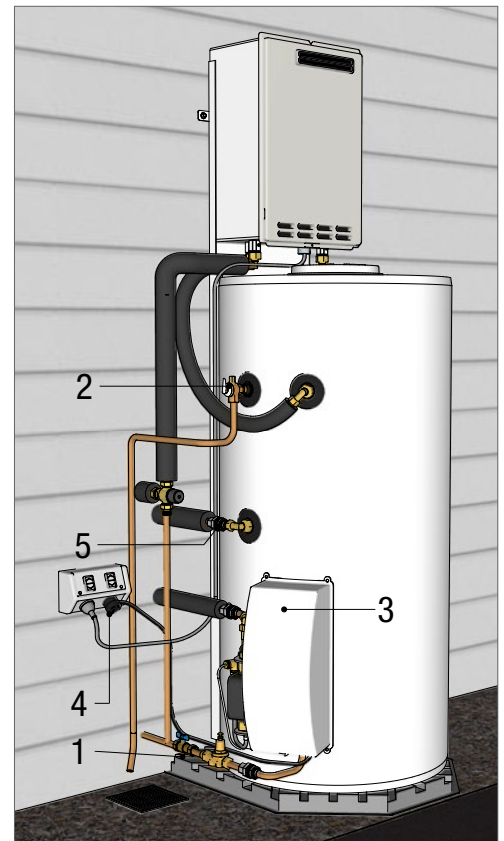

Fig 3
5. Connect the collector panel sensor lead into the 'Panel' socket on the solar controller (Fig 3: 3 - under pump station cover)
Filling the storage tank cylinder & purging air (Fig 3)
Filling the solar loop & purging the remaining air (Fig 3)